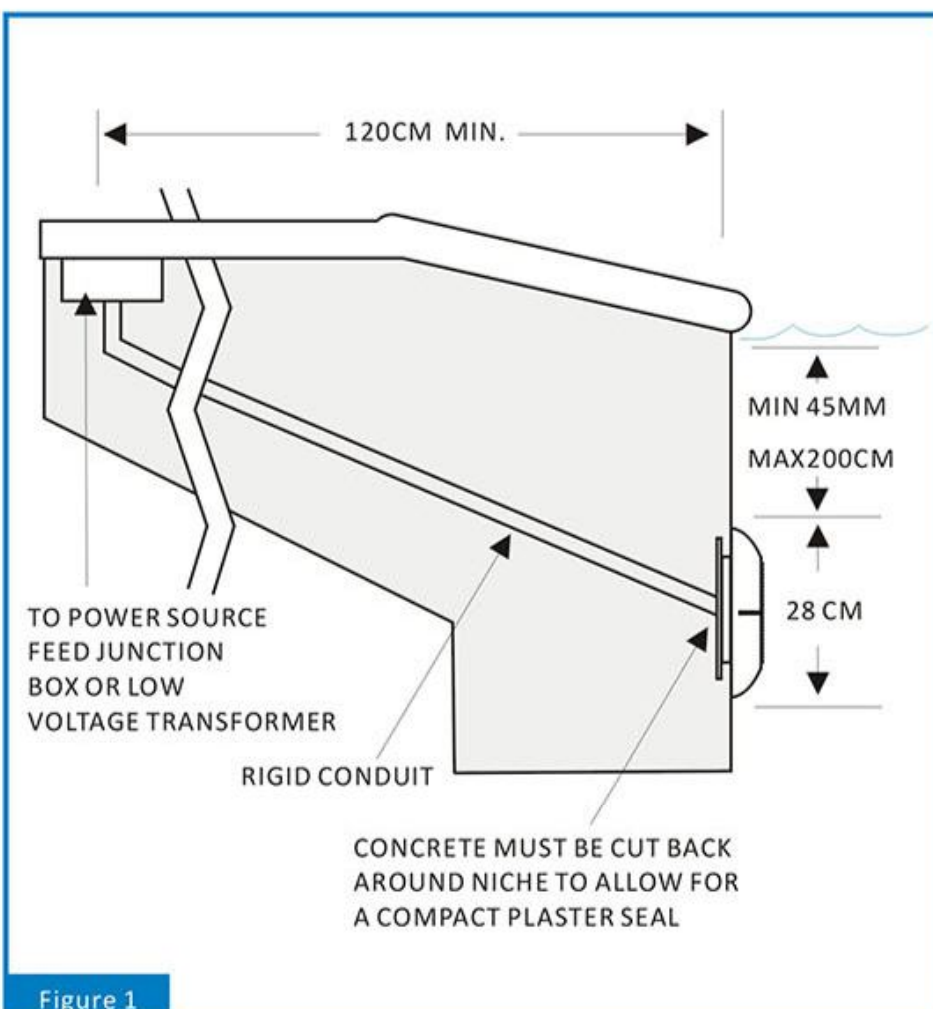

Figure 1
A: Preparatory steps which must be completed by the electrician before light is installed see Figure 1:
- a) The junction box, or the low voltage transformer for 12 volt modes, NEVER SUBMERGE THE TRANSFORMER is located at least 120 cm from the edge of the pool, and is IP 64 splash rated see Figure 1
- c) The mounting bracket must be properly installed so that the edge of the face plate of the underwater light's LEDs are at least 45 cm below the surface of the water in the pool, see Figure 1.
1. Locate position on the vertical wall where lights are to be installed. The edge of the face plate must be 40~50 cm below normal water level, see Figure 1